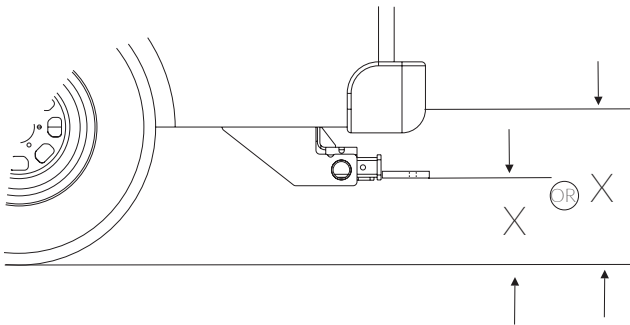

Figure 4-19
3. Adjust for bumper height. See Figure 4-19.